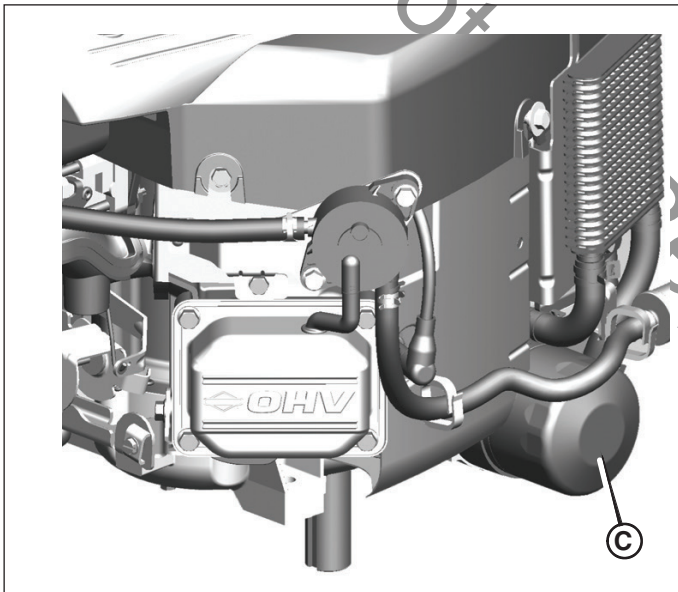

Figure 21
2. Remove the oil filter (**C**, Figure 21) and dispose of properly.